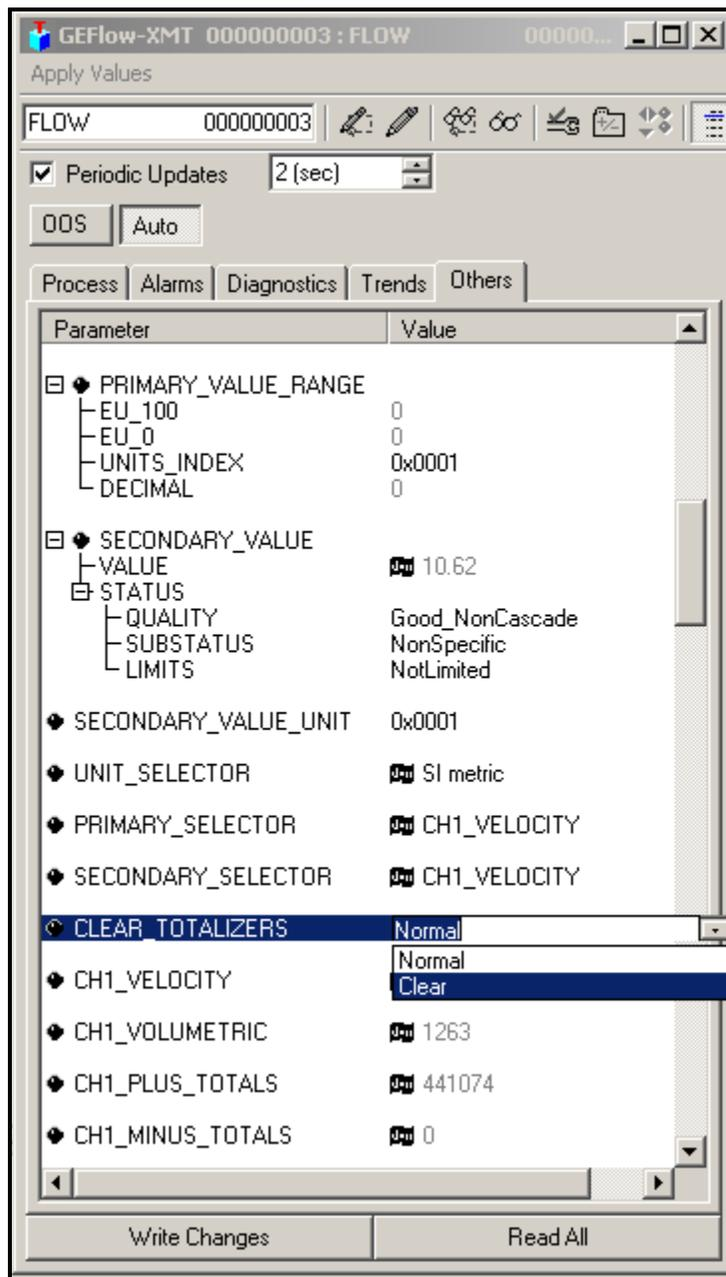

Figure 5: Clear Totalizers Drop Down List
3. Select **Clear** from the drop down list box (see Figure 5 below).